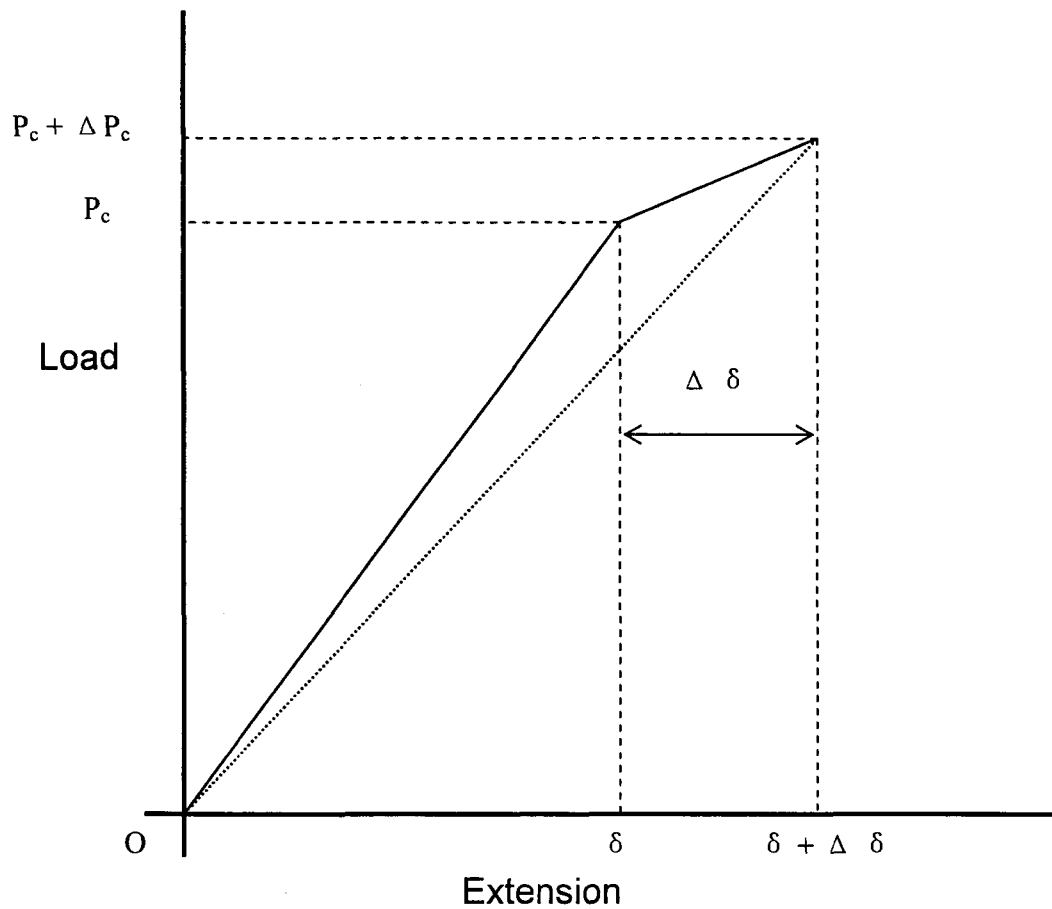

Figure 1
(b) Based on Irwin-kies Relationship and Figure 1, indicate that strain energy release rate (G) is